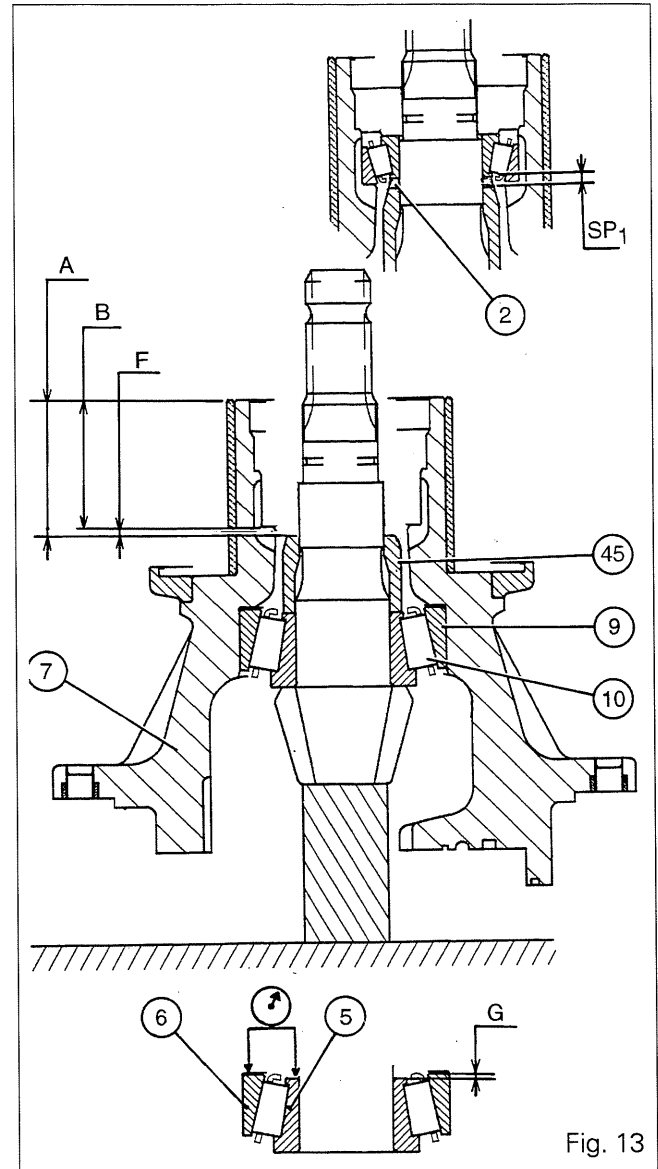

Fig. 13
45. Place the prepared bevel drive pinion in the casing (7) as shown in Fig. 13. Rotate the housing through several turns in order to correctly seat the bearing cone (10) in the cup (9). Slide the spacer (45) into position with its chamfered edge towards the splines on the bevel drive pinion.
46. Using a depth gauge, measure dimension 'F' according to the formula:  $A - B$  (Fig. 13).
47. Press on the cup (6) while turning it alternately to the right and to the left in order to seat it correctly on bearing cone (5). Measure dimension «G» (Fig. 13).
48. Determine the shim (2) thickness  $SP_1$  (Fig. 13) according to the formula: